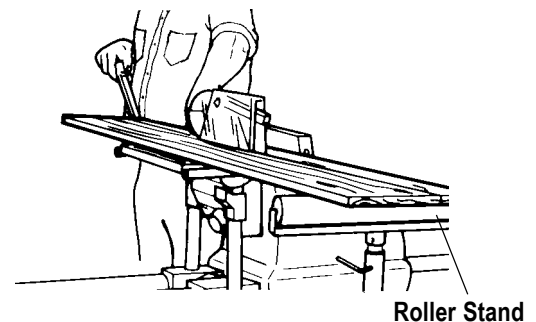

Figure C-8
4. Position roller stand(s) 1' to 4' out from the back and/or front of the table. Adjust the stand(s) so the stock rests flush on the table, then lock the roller stand(s). You can also use it as a support table. See Figure C-8.